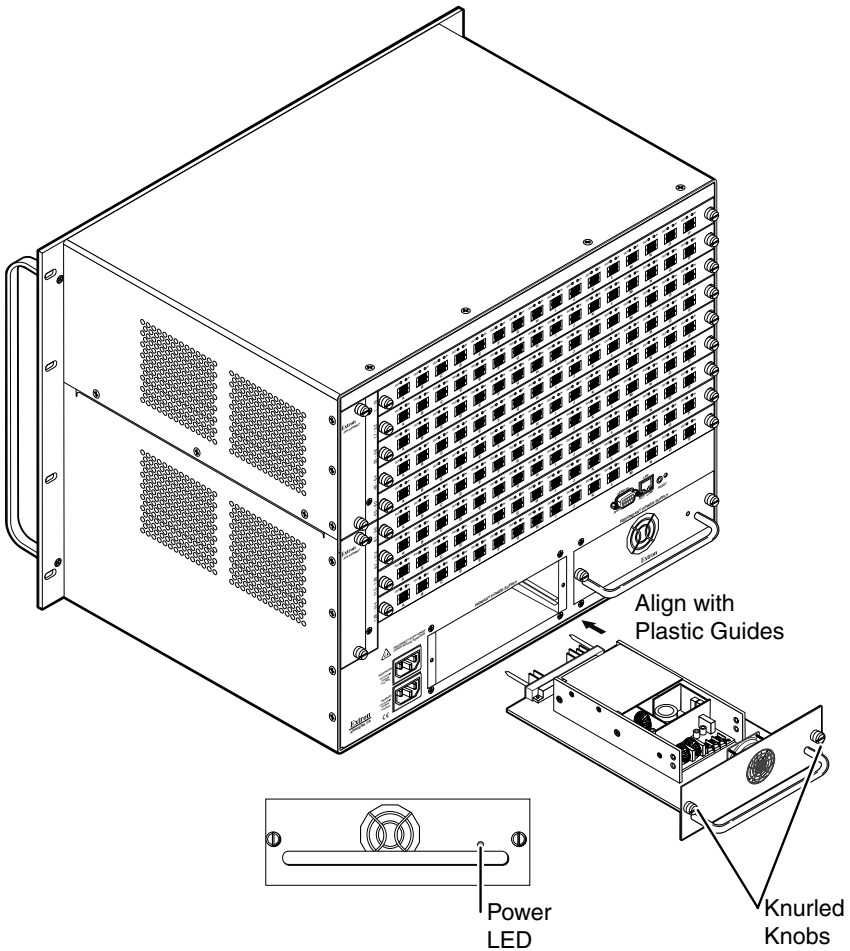

Figure 12. Power Supply Removal and Installation
3. Slide the power supply out of the chassis (see figure 12 on the next page).
5. Align the flanges on the power supply module with the power supply guides (see figure 12).